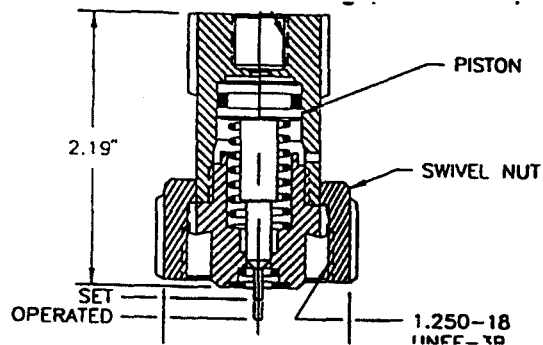

Figure 4.14 - Pressure Operated Control Head
4.14 Installation of Pressure Operated Control Heads (P/N 878737). (See Figure 4.14).